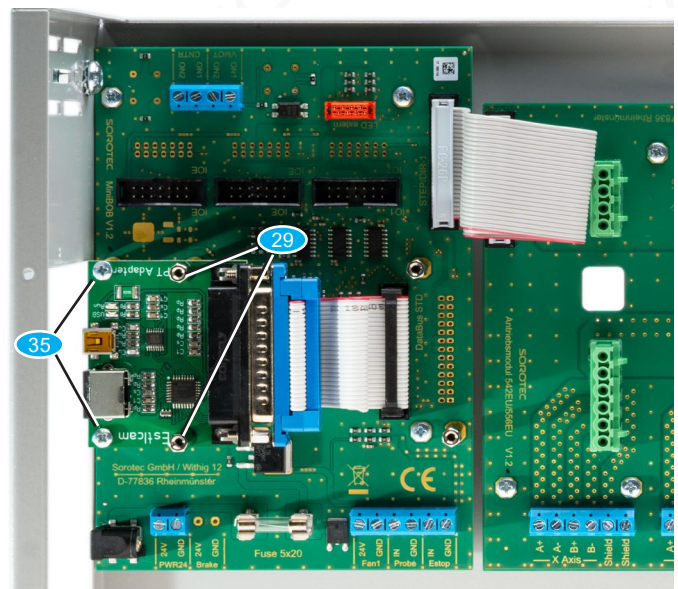

Fig. 12: Mounted adapter module, here Estlcam
- Mount the adapter module on the MC Bob with cylinder head screws **35** and spacer nuts M3 x 20 **29**, as shown in Fig. 12.